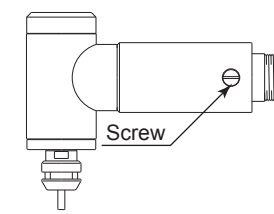

Fig. 15
- ① Turn OFF the power switch of the CONTROLLER and stop the air supply. If air motor is used, stop the air supply to the Air Line Kit.
- ② Remove the Grease Inlet Screw on the Spindle with a screw driver (Fig. 15).